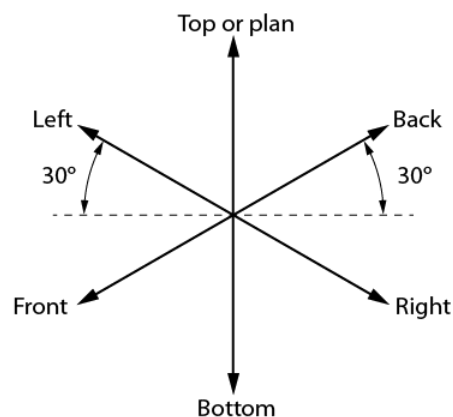

Figure 9.1.2: Step 1: Isometric guide for front-right view
Draw a small star-shaped axis on the bottom corner of your grid paper. The sloping axes should be drawn at a 30-degree angle from the horizontal grid line. The vertical axis of the star indicates height (H) or depth (D), and the two sloping axes indicate the length (L) and the width (W) of the rectangle. The vertical axis can be used as a guide when making lines on your drawing. Notice we have labeled the points on the star in Figure 9.1.2. When drawing a stationary object, these labels can change depending on your desired view. The bottom two horizontal points indicate the view that is being drawn. In this case, we would be creating a front-right view.